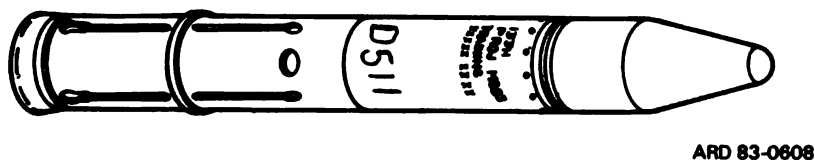

Figure 211.14.5. Projectile, 155-mm, training, M823.
(19) *Projectile, 155-mm, training, M823 (fig. 211.14.5).* This projectile is designed to train 155-mm howitzer weapon crews in the handling and setting of the M712 projectile. It simulates the M712 in weight, center of gravity, and external appearance. It contains code and time switches which are set to simulate prefiring activity by the crew. It is shipped and stored in the same container as the M712, color coded bronze for easy identification. Details on use of M823 projectile begin on page 212.23.